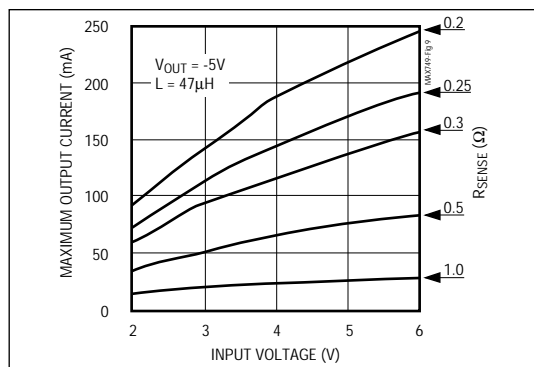

Figure 9a. Maximum Output Current vs. Input Voltage, $V_{OUT} = -5V$
To maximize efficiency and reduce the size and cost of the external components, minimize the peak current. However, since the output current is a function of the peak current (Figures 9a-9e), the limit should not be set too low.
2. In Figures 9a-9e, locate the graph drawn for the appropriate output voltage (which is either the desired output voltage or, if that is not shown, the graph for the nearest voltage more negative than the desired output). On this graph find the curve for the highest R_{SENSE} (the lowest current limit) with an output current that is adequate **at the lowest input voltage**.
The theoretical design curves shown in Figures 9a-9e assume the minimum (worst-case) value for the current-limit comparator threshold. Having selected the current-sense resistor, the maximum current limit is given by $180mV/R_{SENSE}$. Use the maximum current-limit figure when choosing the transistor, coil, and diode.